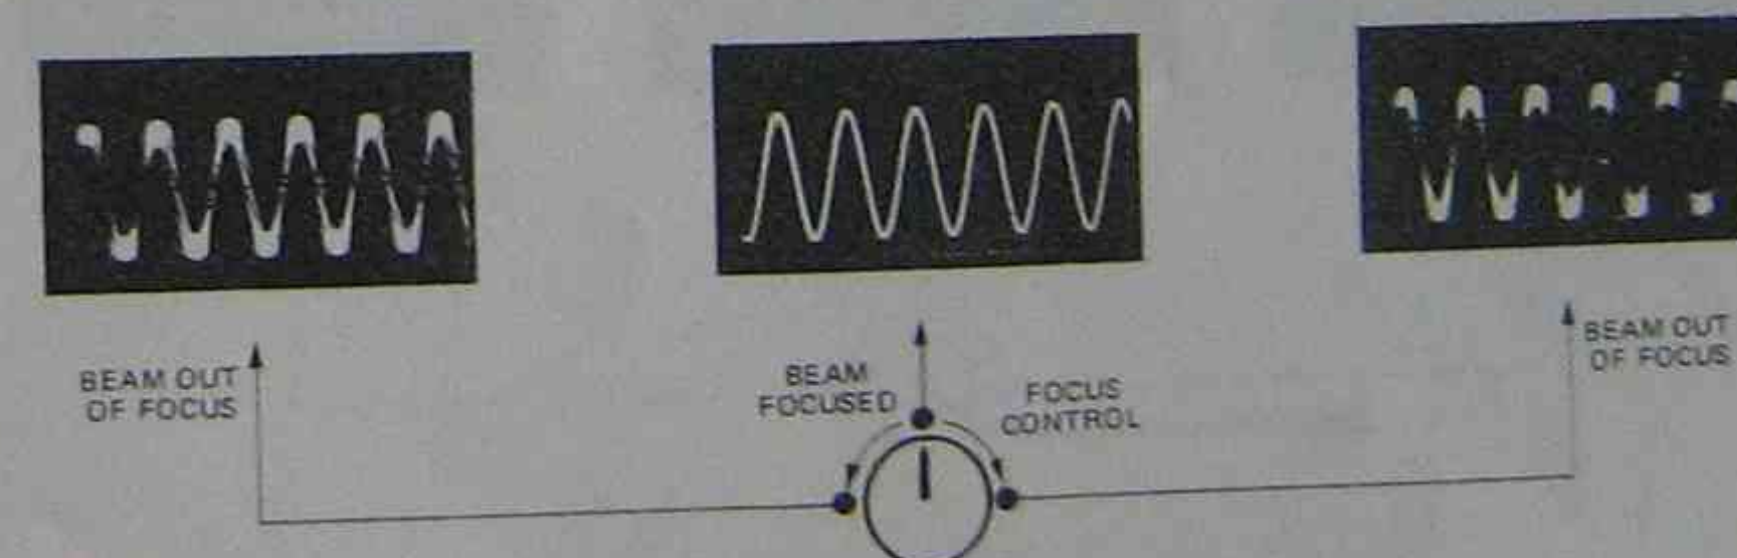

FIG. 26. VARYING THE FOCUS CONTROL.
8.3 FOCUS CONTROL. This control allows the operator to adjust the size of the spot and, therefore, the thickness of the trace on the screen for more accurate measurements. The focus control adjusts the relative potentials between grids in the C.R.T. and thus varies the compressing force on the beam. The photographs of the C.R.T. trace in Fig. 26 show that rotating the focus control reduces the beam size to a fine spot so that a fine trace is produced on the screen. Further rotation of the control defocuses the beam once again.